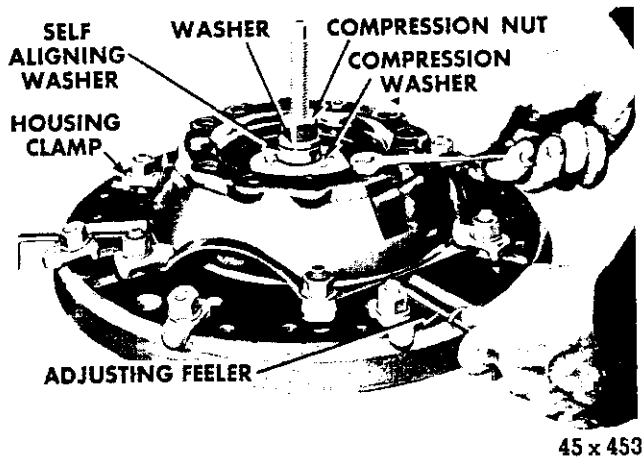

Fig. 6—Adjusting Clutch Release Levers
(12) Turn the eye bolt nuts down the eye bolts, flush with ends of the bolts. This is a temporary position.
(13) Remove the compression nut, washer and spider and push each lever down several times to be sure that the levers are seated properly.
(14) To adjust the release levers, install tool spacer C-585-19 on the fixture center screw, then lever compression plate C-585-36, flat side down. Install the thrust washer and compression nut and tighten the nut (Fig. 6).
(15) Adjust the eye bolt nuts until the feeler blades have the same drag or feel while being pushed in or pulled out.
(16) After all levers are adjusted, recheck the drag of the feeler blades before staking the eye bolt and nuts.
(17) Remove the clutch from the fixture.